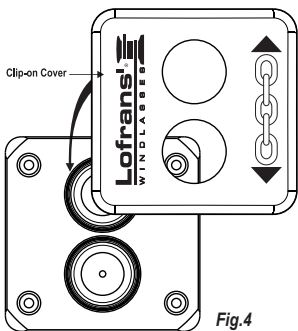

Fig.4
- Only when totally finished and satisfied with the wiring and positioning of the unit, clip-on the face panel/cover. Lofrans' logo must be on the left side of the Touch Panel, exactly as shown in Fig.4